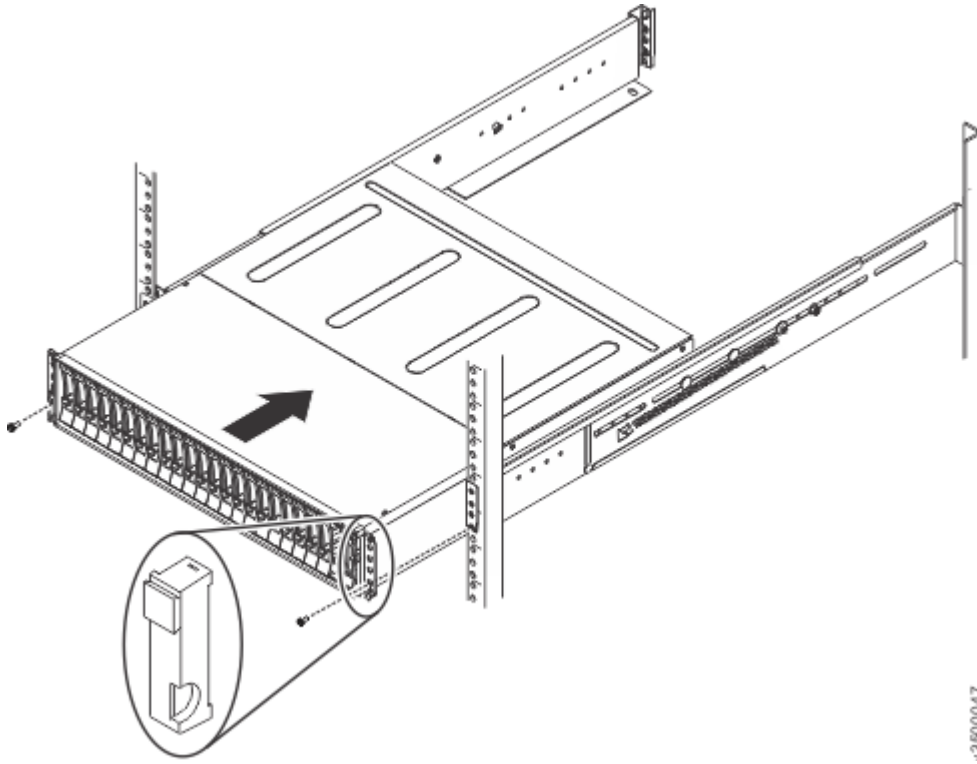

Figure 22. Inserting the enclosure
3. Slide the enclosure into the rack along the rails until the enclosure is fully inserted. (See Figure 22 on page 45.)
(See Figure 22 on page 45.)